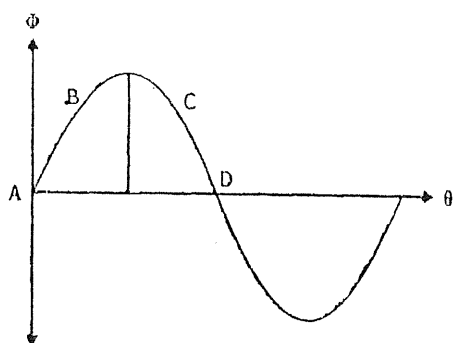

FIG. 4.18 : ALTERNATING FLUX
- It is shown in Fig. 4.18. Now, due to the copper ring wound on the pole shoe, the distribution of the flux is not uniform but it will be move from un-shaded part to shaded part.